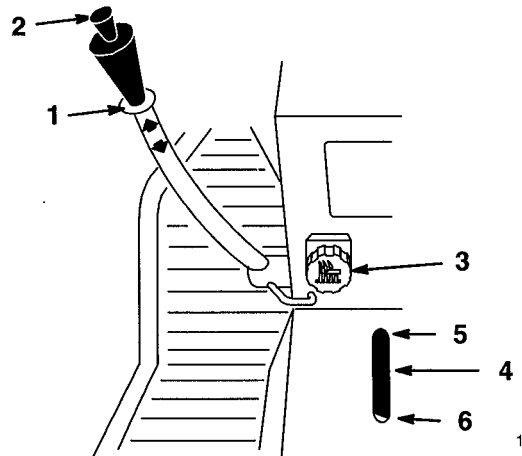

Figure 20
The attachment lift lever (Fig. 20) is used to raise and lower various attachments.
The Dial-A-Height control (Fig. 20) is used to limit the downward travel of the attachment. The Dial-A-Height knob is rotated to change the location of this stop, up or down.
1. Raise the attachment lift lever: Refer to Raising Attachments. In the raised, position the Dial-A-Height knob (Fig. 20) can be rotated to change the stop location. Turn clockwise to raise and counterclockwise to lower the height of the attachment.
2. The Dial-A-Height indicator (Fig. 20) will show the change, high to low, in attachment lift height as adjustment is made.